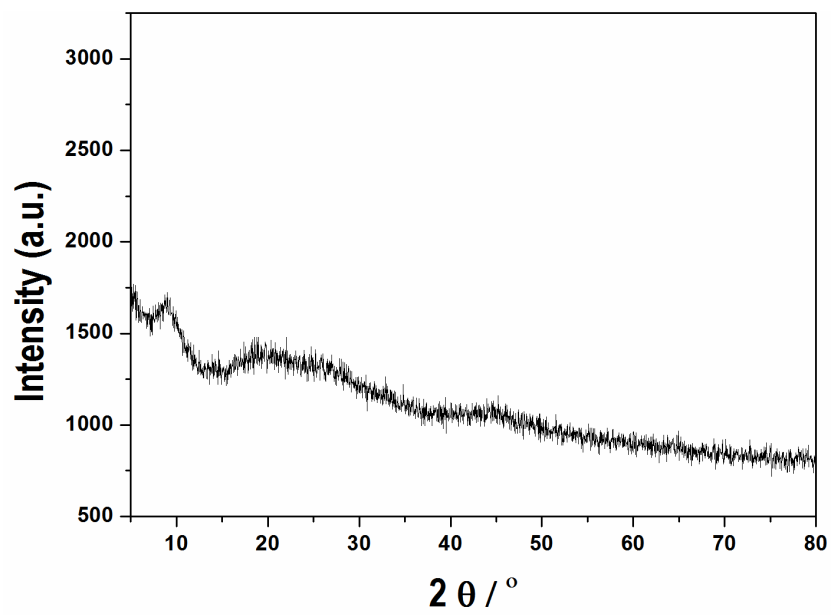

Fig. S1 XRD pattern of Eu-CPs.
1. **Fig. S1** XRD pattern of Eu-CPs.